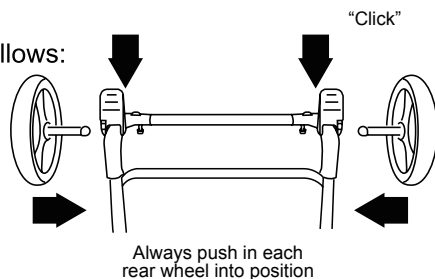

Fig. 3a
- 3) • Position stroller with rear leg tubes facing upward. Place the rear axle with wheels over the rear legs and apply downward pressure on both sides. Ensure both sides lock into place (Fig. 3a).